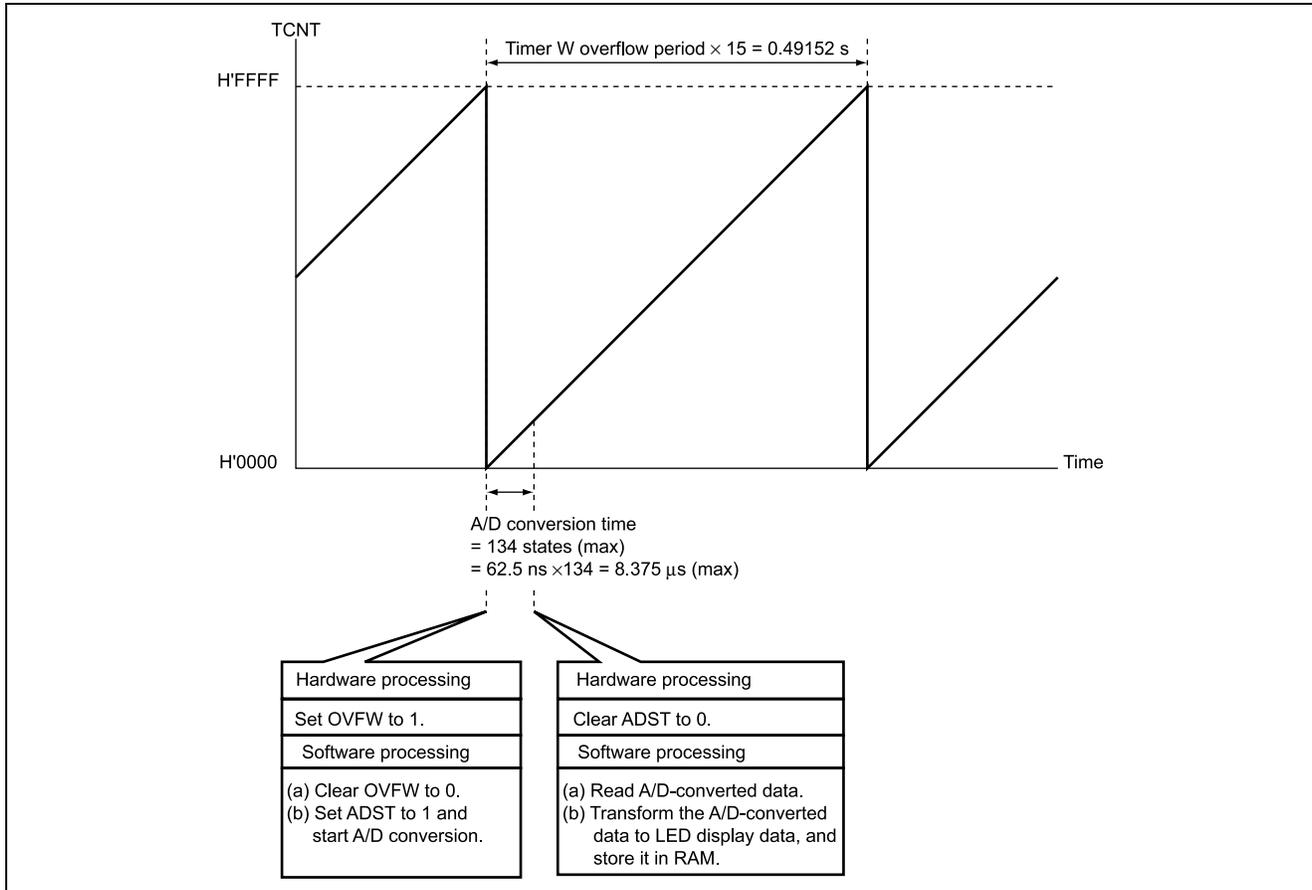

Figure 3.1 Principle of Operation of A/D Conversion of AN0-Pin Signal Using Timer W
- Figure 3.1 shows the principle of operation in the use of timer W and A/D conversion carried out on the AN0 pin. The A/D conversion interrupt is not used in this sample task. Instead, the time to start A/D conversion (0.49152 s) and completion of A/D conversion are detected by polling of the timer W overflow flag in the tmrw routine.